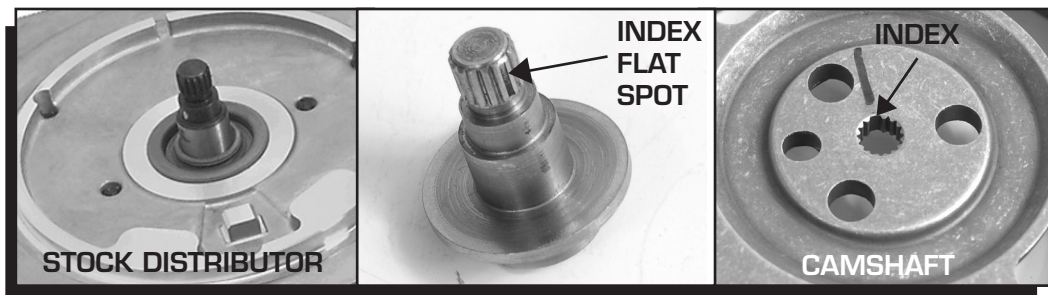

Figure 1 The Drive Mechanism of the PN 8381 Distributor.
Throughout its course, the GM LT-1 engine used two different drive mechanisms to connect the cam to the distributor. Figure 1 shows the drive for the MSD PN 8381 Distributor. This design is used in the early model distributors. Make sure this is correct for your application.
17. Notice the indexing pin on the camshaft (Refer to Figure 1). Be sure to align the new distributor with the pin on the cam. The rotor should come to rest in the same location as it did in Figure 7.